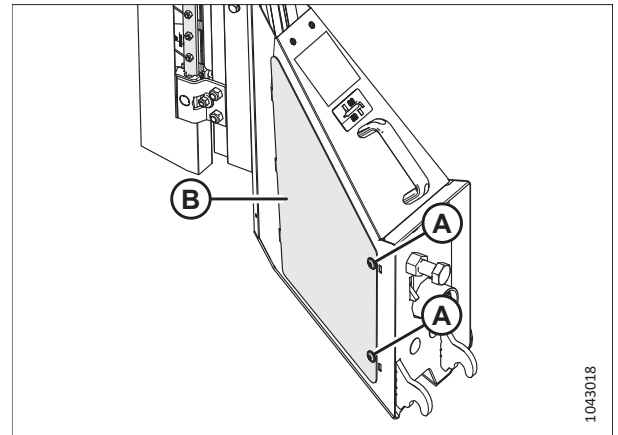

**Figure 4.379: Adjusting Knife Position**
13. Support knife assembly (A).
14. Remove bolts and washers (B). Clean any existing threadlocker from the bolts.
16. Reposition knife assembly (A) until the correct configuration holes line up with the holes on the frame. Refer to Figure 4.379, page 741.
17. Install bolts (B). Torque the bolts to 54 Nm (40 lbf-ft).